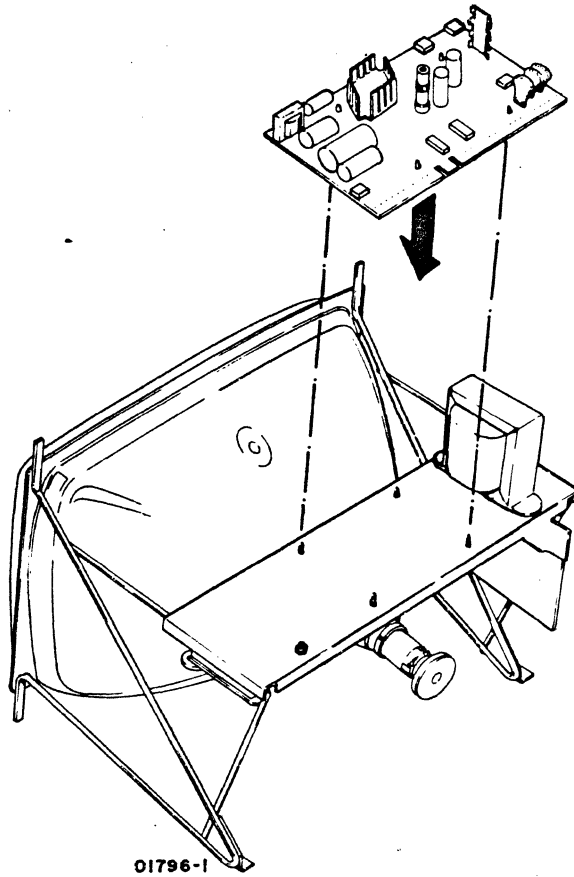

Figure CRT12. Video Printed-Circuit Board Placement
- 7) Install new printed-circuit board by positioning board over mounting pegs (match holes on printed-circuit board with pegs) and gently pressing board down into position (figure CRT12) so that friction clips on pegs pass through holes sufficiently to lock board in place.